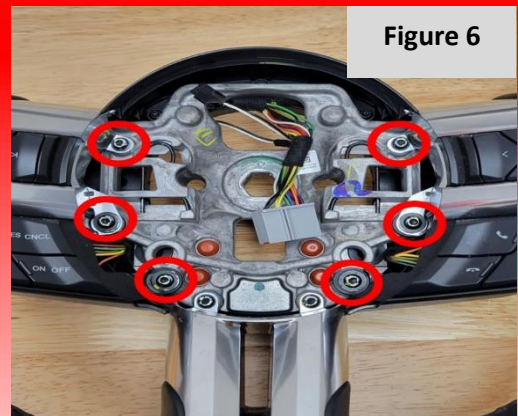

Figure 6
6. Using a T20 Torx bit, remove the (x6) screws as seen in **Figure 6** in the steering wheel core. Then, using a plastic pry bar, pull the upper wing bezel free from the steering wheel core on the right-hand side of the wheel from the outer wing section of the bezel prying inwards towards the center of the wheel.
20. Reconnect the right and left-hand multi-function controls that were removed in Step 6 and **Figure 6**. Secure with (x3 per side) T20 Torx Bit screws. Torque to 44lb-in (5 Nm).